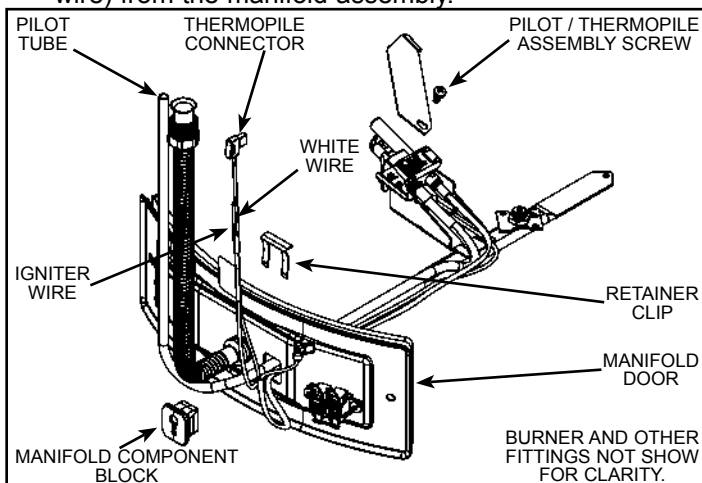

Figure 22 Manifold Door Assembly
3. Remove the screw securing the pilot/thermopile assembly to the pilot bracket and keep for reuse later (see Figure 22).
4. Lift the retainer clip straight up from the back of the manifold component block (using a flat-blade screwdriver), then remove the manifold component block from the manifold door (see Figure 22). **Important:** Be careful not to bend or alter the position of the pilot tube. It will be used as a bending template for the new pilot assembly. Note the placement/order of the wires in the manifold component block.
7. Route the new pilot tube, igniter wire and thermopile wire through the opening in the manifold door (see Figure 22).